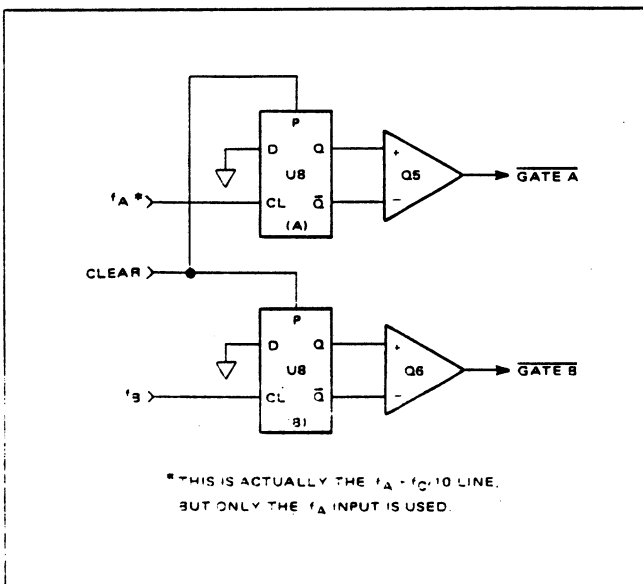

Figure 4.33 - Signal Detect
4.4.9.14.1 The circuitry is shown in figure 4.33. The clear line goes high at the completion of each measurement cycle and presets the flip-flop Q outputs true ( $\overline{\text{GATE A}}$  and  $\overline{\text{GATE B}}$  lines are set high). A positive going pulse at the input of the (A) flip-flop causes Q to go low and GATE A to go low. The operation of GATE B circuitry is the same.